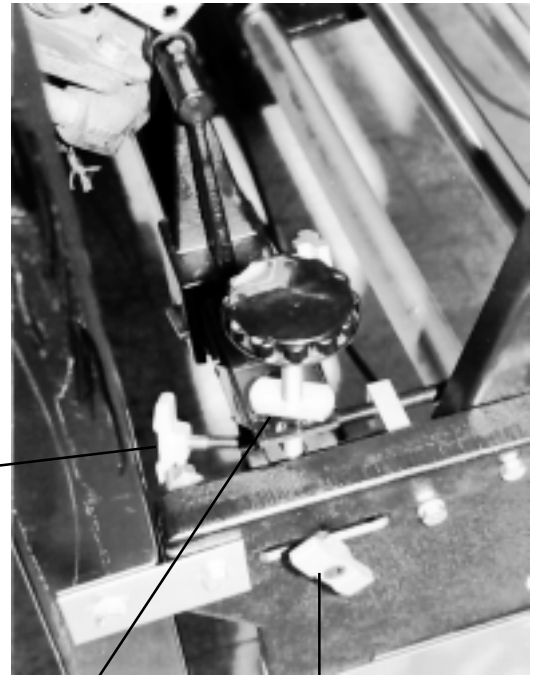

FIG. 12
1. Loosen the vertical and horizontal lock knobs on the vertical and horizontal adjusters on the left side of the tooling bar. Loosen the Vertical Stop Lock. See FIG. 12.